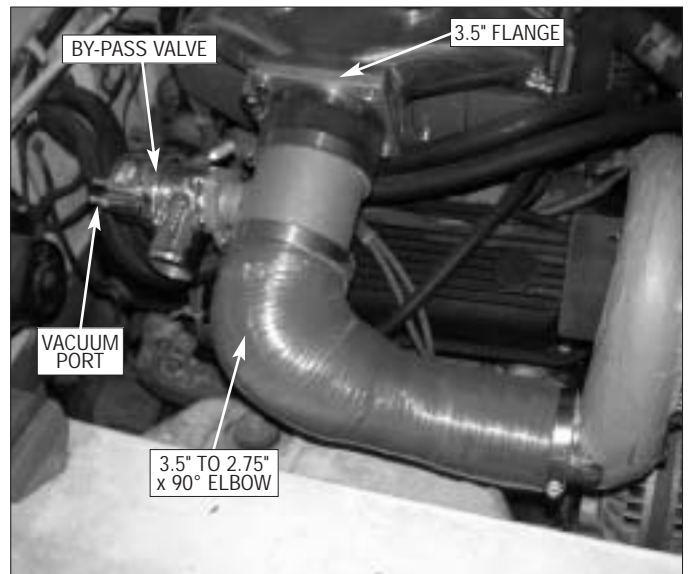

Fig. 9-a
Refer to Fig. 9-a for the following steps.
- B. Using the supplied 1/4-20 hardware and gasket, attach the 3.5" aluminum flange to the carburetor enclosure lid. (See Fig. 9-a.)
- D. Locate the supplied Race By-Pass Valve. Secure the valve to the Ø3.5" tube/w welded flange using the supplied 1/4-20 hardware and gasket. (See Fig. 9-a.)
- E. Install the by-pass valve assembly into the previously installed 3.5" sleeve and secure using a #56 hose clamp provided. The by-pass valve discharge should face the passenger's side of the vehicle. (See Fig. 9-a.)
- F. Connect the 3.5" to 2.75" x 90° molded elbow between the by-pass tube and supercharger discharge and secure using the remaining #56 and #44 hose clamps supplied. (See Fig. 9-a.)